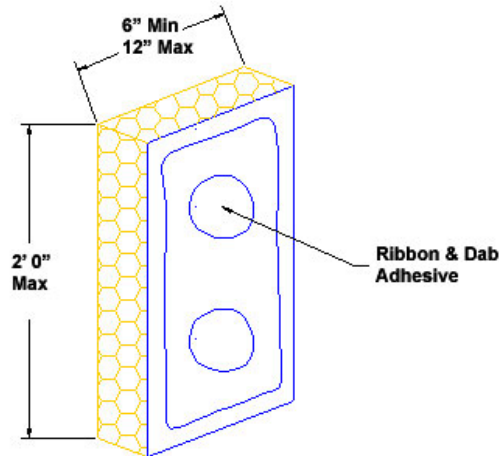
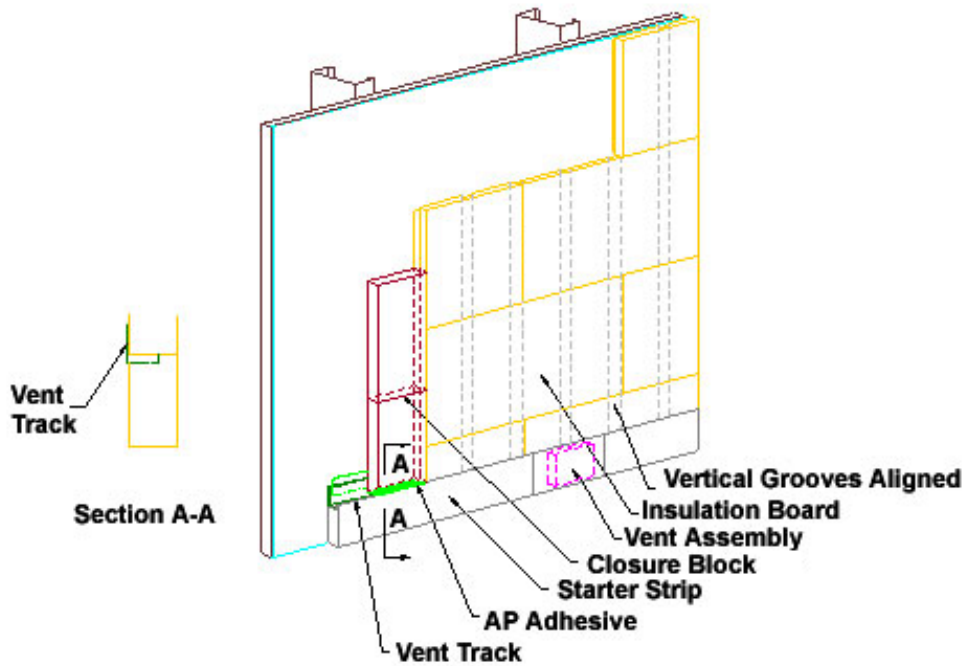

Figure 20
Figure 21
- b. Apply the Dryvit Adhesive mixture to the back of the Closure Blocks using a ribbon and dab adhesive pattern as shown in Figure 20 and position along the compartment separation line as shown in Figure 21.